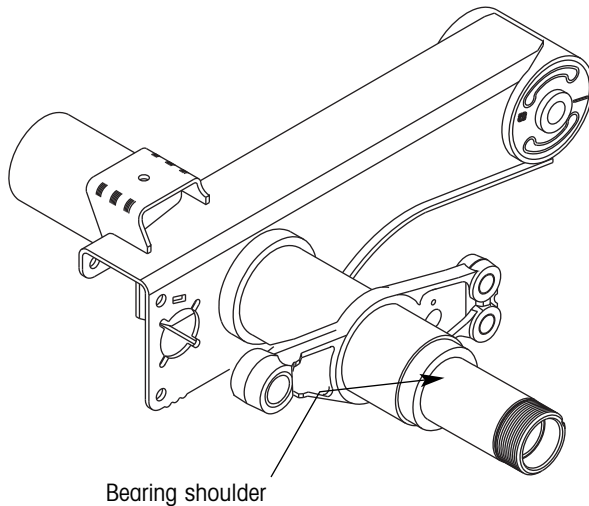

Figure 16. Make sure the bearing shoulder is free of debris
5. Use your finger to verify that the hub side of the axle bearing shoulder and the side of the hub that contacts this shoulder are completely free of debris (figure 16).